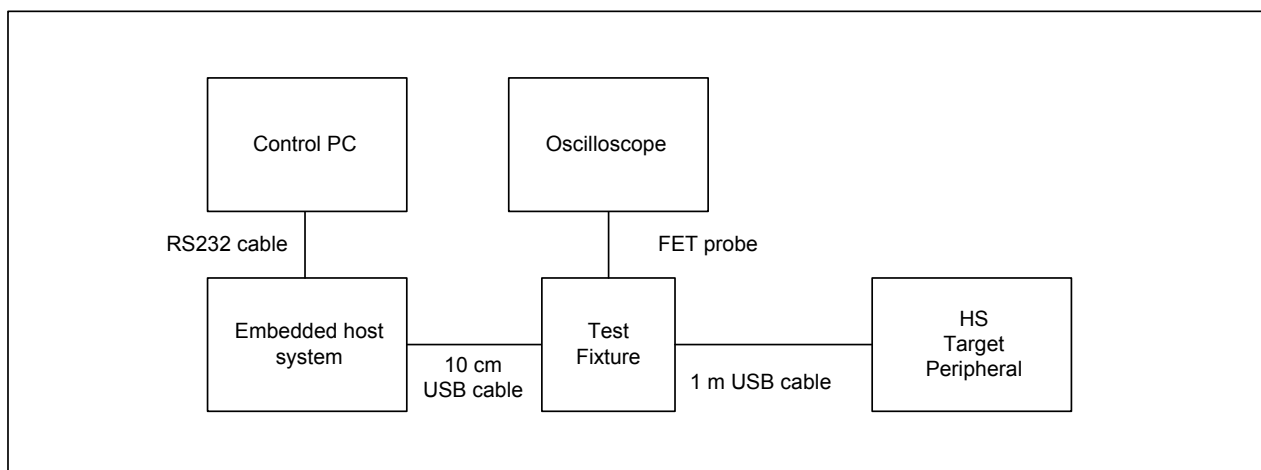

Figure 5-4 Host controller packet parameter testing configuration
Measures HS transmission packet waveform timing. This measurement is made if the system supports HS devices. Figure 5-4 shows the testing configuration.
1. Connect as shown in Figure 5-4.